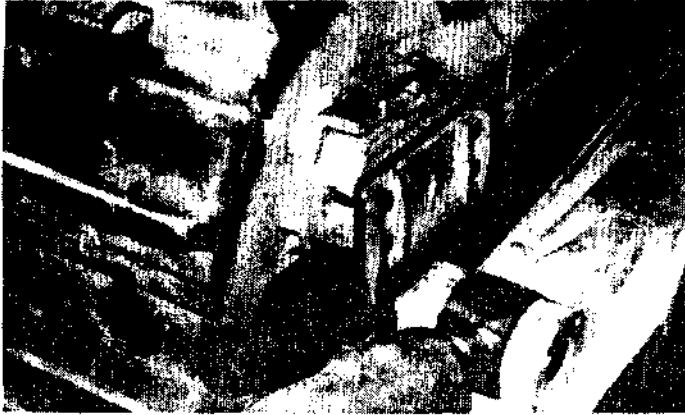

Fig. 5-28
Run the machine 1 or 2 meters on flat ground. If the clearance "A" between the track frame and side guide (9) (there are 4 places: left, right, internal and external) exceeds 4mm, loose the bolts (1), remove shim C to adjust the side clearance to 0.5-1.0mm. The thickness of a shim is 1.0mm as shown in Fig. 5-28.